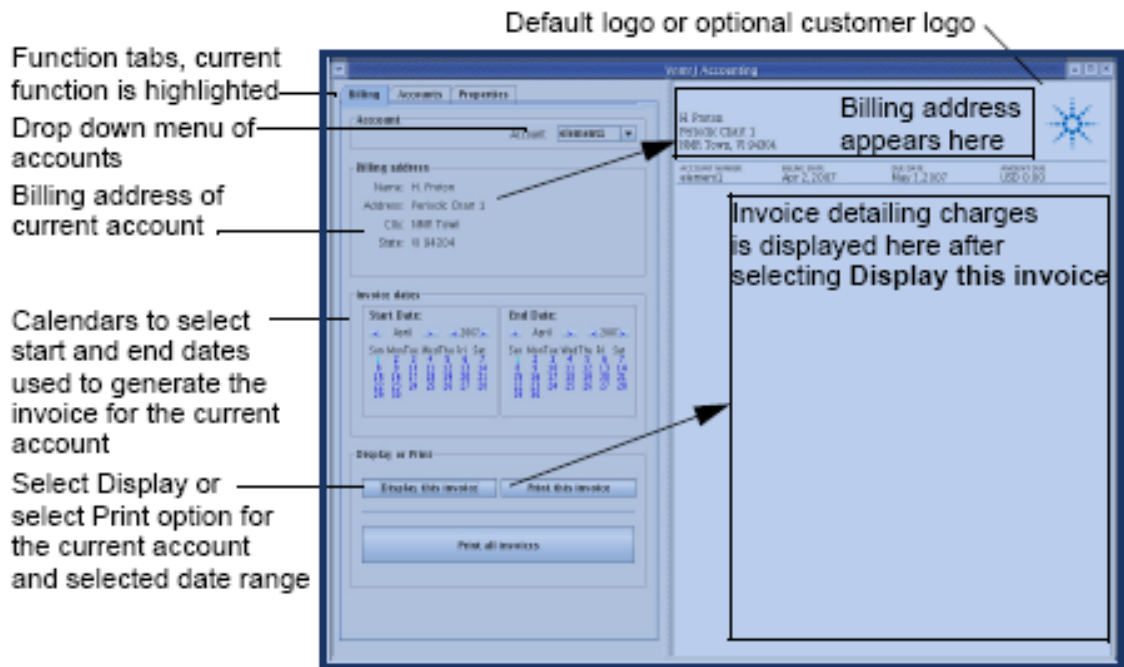

Figure 6 VnmrJ 3 accounting billing window
Click the **Billing** tab to open the Billing window. See Figure 6.
- a Click the **Display this invoice** button to display the invoice on the right side of the Billing tab; see Figure 6 on page 93.